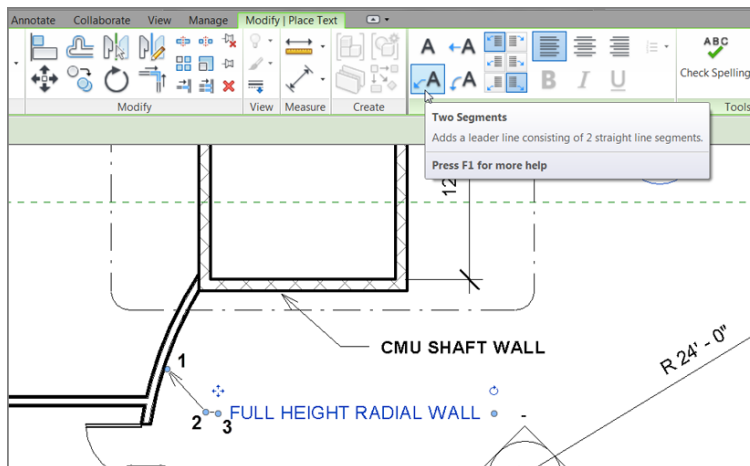

FIGURE 5.50: Adding a piece of leader text
2. On the Format panel, click the Two Segments button, as shown in Figure 5.50.
3. Pick a point near the radial wall, marked 1 in Figure 5.50.
It almost seems as though Revit uses the ugliest leader as a default, forcing you to change it immediately. The large arrowhead you saw in Figure 5.50 isn't the only one Revit provides—had that been the case, Revit might have never have gotten off the ground!